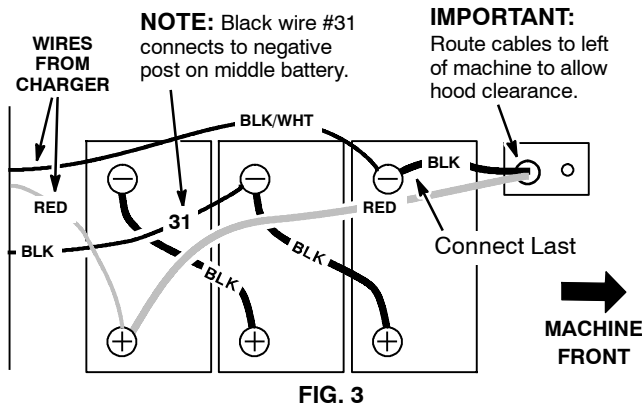

FIG. 3
- Using the cable boots, connect the battery cables to the battery posts as shown, RED TO POSITIVE & BLACK TO NEGATIVE (Figure 3).